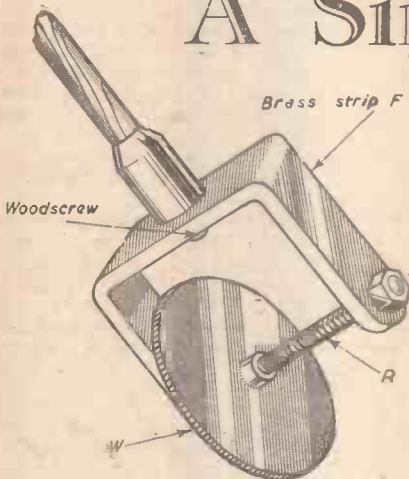

Fig. 1.—The completed map measurer.
This simple device is shown in Fig. 1. R is a threaded rod fixed in a U-frame (F). On the rod is a little wheel (W) with a knurled or toothed rim. The round handle gives a convenient grip for the fingers, allowing the instrument to be guided easily in any direction. Imagine that you wish to measure the length of a wavy line. You start with the wheel at one end of the rod, rest it on one